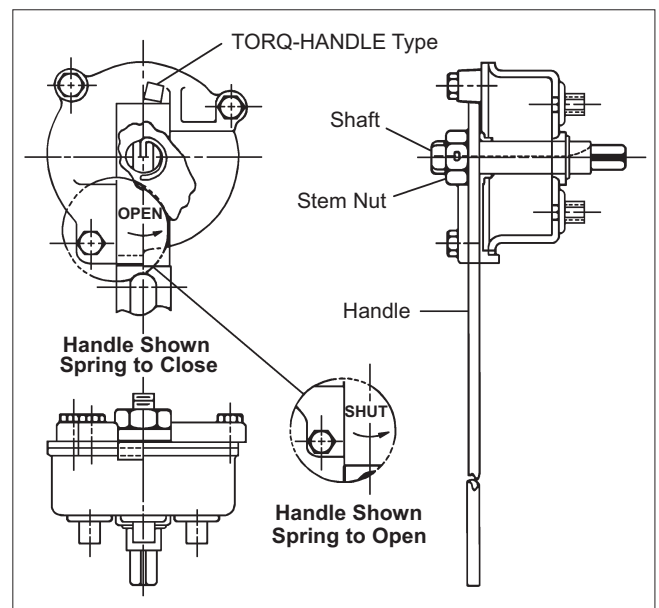

Fig. 1
3. TORQ-HANDLE are normally shipped from the factory in the spring-to-close mode. If mounted spring-to-close, go to Step 4. If the TORQ-HANDLE was mounted in the spring-to-open mode, the handle should be flipped to give proper direction indication. Insert a brass rod through the ball so that it will prevent the ball from rotating. The rod should be 1/32" to 1/16" smaller than the port diameter of the valve (see Table 2). Remove the stem nut as shown in (Figure 1). Remove the handle. Turn the handle over so that its arrow indicates counter-clockwise-to-shut and replace it onto the shaft. Replace the stem nut. Remove the rod from the valve port.